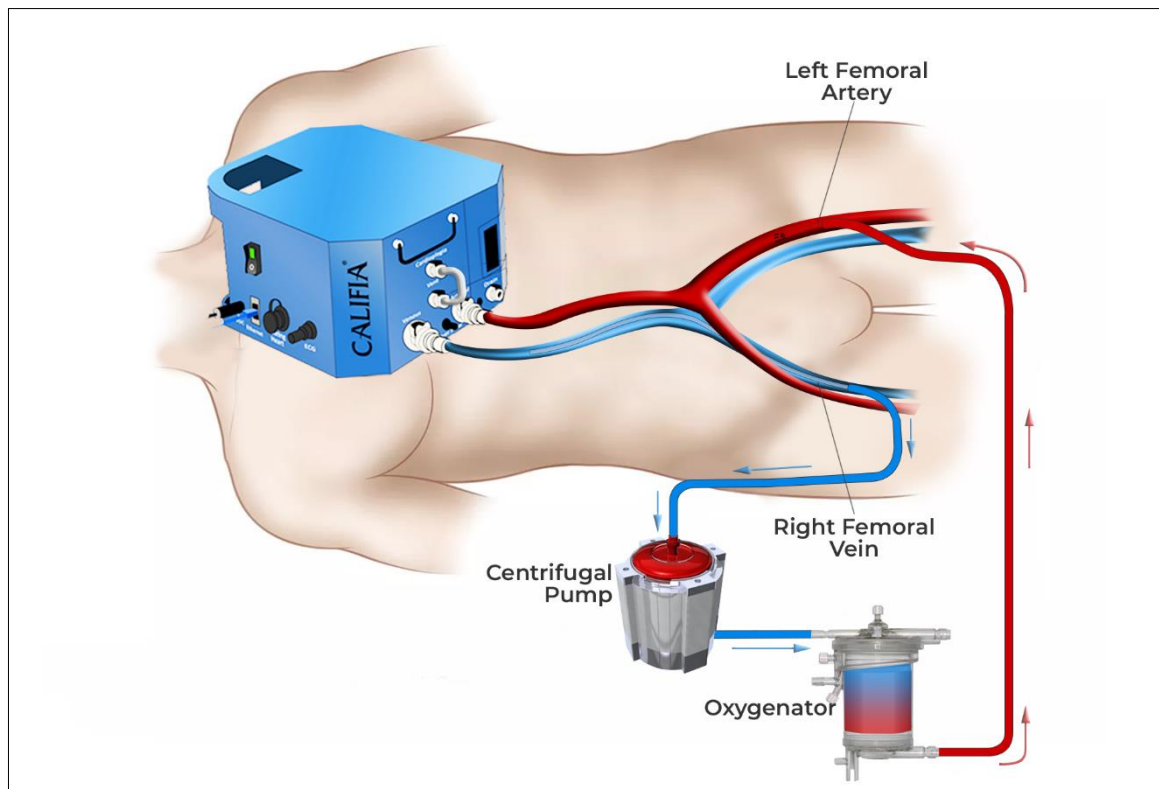

Figure 1.4 VA ECMO with CPM
1.3.1 **VA ECMO** - Figure 1.4 illustrates connections between a VA ECMO circuit and the CPM. Table 1.2 summarizes these connections.